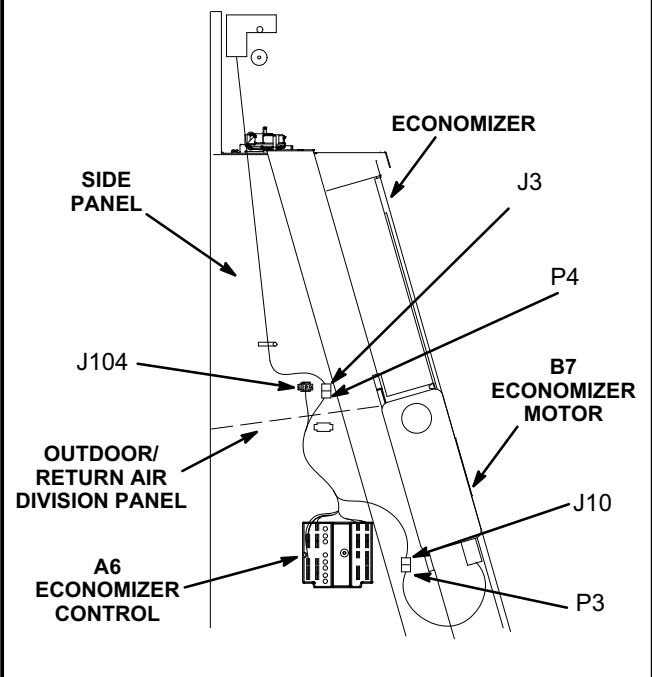

FIGURE 14
- 1- Install A6 economizer control on economizer side panel as shown in figure 14. Secure with #6-32 X 7/8" TFS screws provided.
- 1- Locate 15-pin J3 unit control harness hanging on left side of filter compartment. See figure 14. Disconnect P3 jumper plug from J3 and retain jumper plug for future troubleshooting.
- 2- Connect the 15-pin male plug P4 from the economizer control (A6) harness to the 15-pin female jack J3 on the unit control harness. See figure 14.
Locate **orange kit harness** with wires labeled J104-1 & J104-2 on one end and A6-OAT on the other end. Insert the connector with wires labeled J104-1 & 2 into the opening on economizer side panel and snap into place. See figure 14 or 16. Connect other end of J104 harness into the orange OAT terminals on the economizer control (A6). See figure 17.
Locate **brown kit harness** with wires labeled J104-1 & J104-2 on one end and A6-SBUS on the other end. Insert the connector with wires labeled J104-1 & 2 into the opening on economizer side panel and snap into place. See figure 14 or 16. Connect other end of J104 harness into the brown SBUS terminals on the economizer control (A6). See figure 17.
- 5- Connect the 15-pin female plug J10 to the 15-pin male plug P3 from the damper motor. See figure 14.